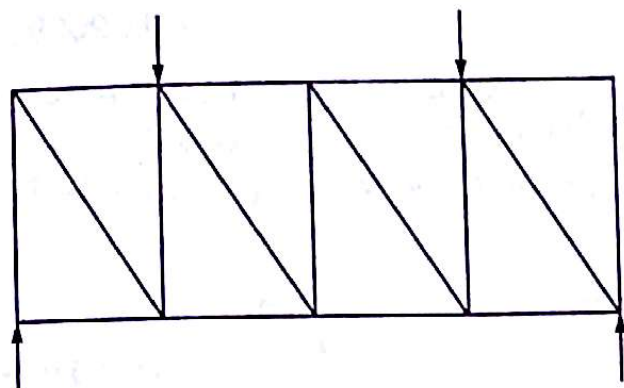

Fig. 4.48
4.19 In the plane truss shown in Fig. 4.48, how many members have zero force